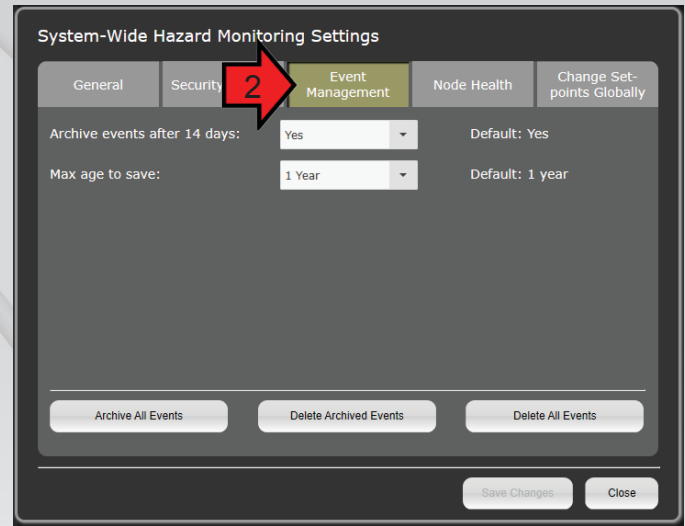

Figure 44
2. Event Management sets a maximum time to keep events in the Event Resolution section before automatically archiving the event. All events can also be archived or deleted on this page. (Figure 44)